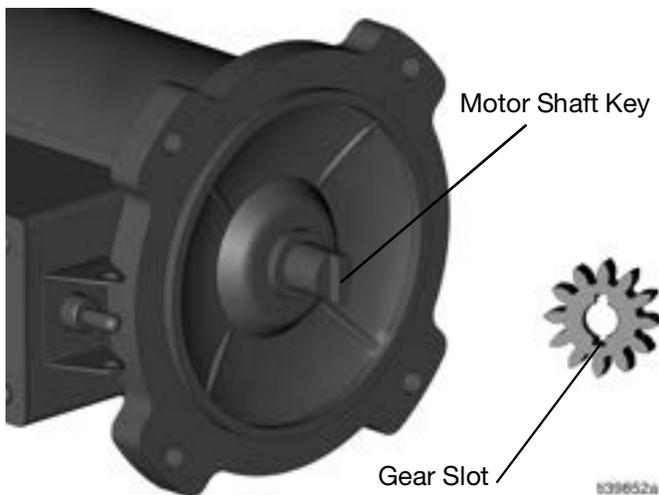

FIG. 5
1. Put the pump housing assembly onto the motor. The motor shaft key should match the slot on the gear on the inside cover (FIG. 5).